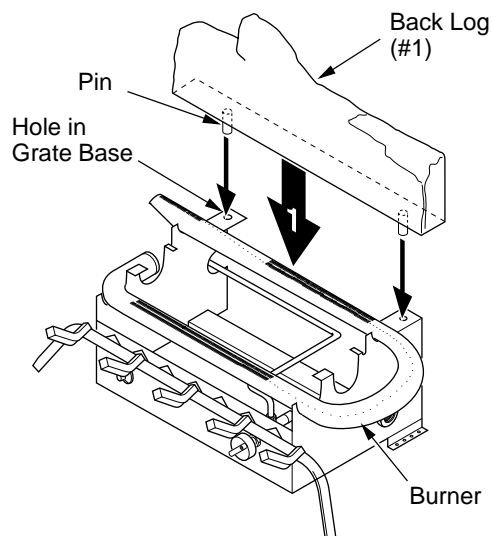

Figure 19 - Installing Back Log (#1)
1. Locate pins on the bottom of back log (#1). Slide these pins into the holes in the grate base behind the burner (see Figure 19).